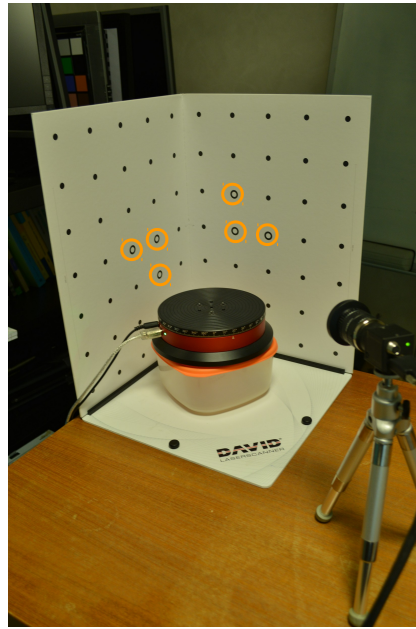

Figure 3: The calibration cardboard.
- the six circles of the calibration cardboard, shown in figure 3 with the orange circles, are visible and well distributed around the middle of the camera image.
1. put the selected calibration cardboard shown in figure 3. The calibration cardboard has to be placed at the middle of the object (which is then removed for this step)